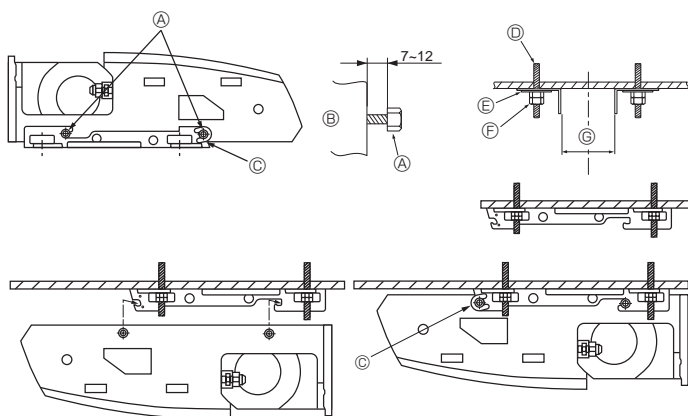

Fig. 3-6
2) Installing the suspending bracket first onto the ceiling (Fig. 3-6)